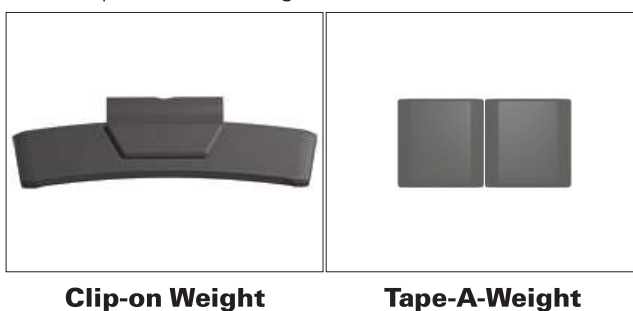

Figure 4 - Corrective Weight Examples. For Best Results, use BADA® Brand Wheel Weights.
**Note:** Throughout this manual, wheel weights are referred to as Clip-on or Tape-A-Weight. Figure 4 shows an example of each weight.